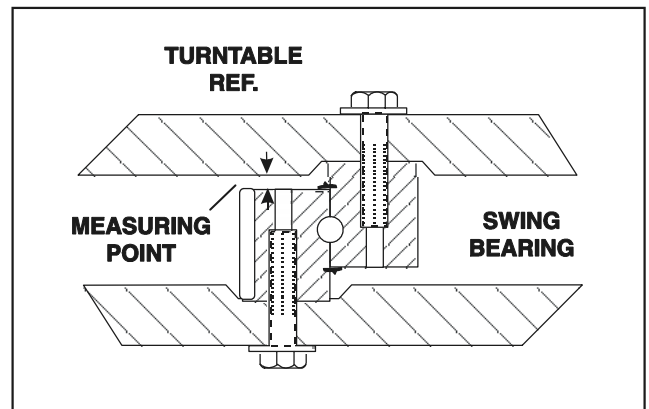
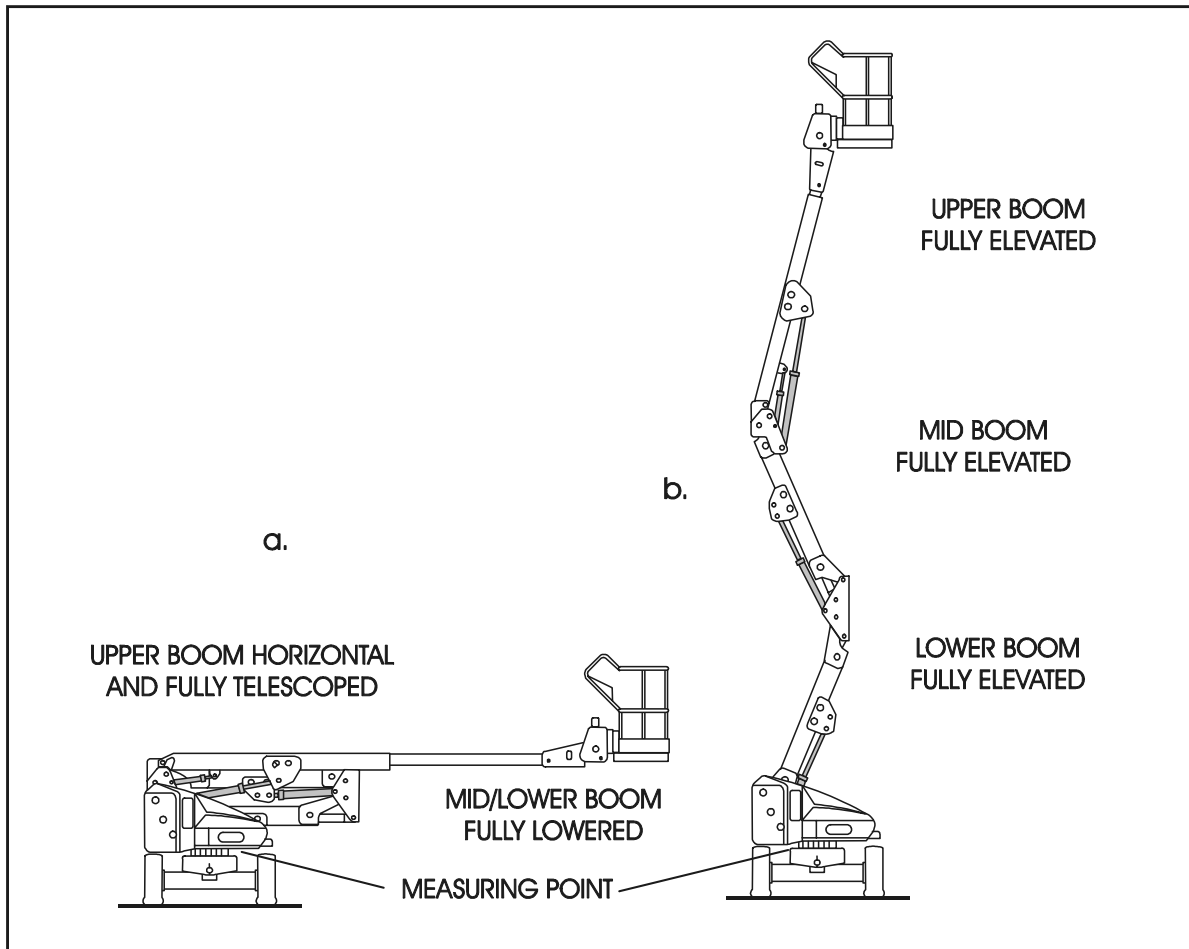

Figure 2-32. Swing Bearing Tolerance Measuring Point
Figure 2-31. Swing Bearing Tolerance Boom Placement
- b. At the positions indicated on Figure 2-31. try and insert the .0015" feeler gauge between the bolt head and hardened washer at the arrow indicated position.
1. With the boom positioned over the side of the machine, the Upper Boom horizontal with telescope fully extended and Mid/Lower Boom stowed, (See Figure 2-31.), using a magnetic base dial indicator, measure and record the distance between the swing bearing and turntable. (See Figure 2-32.)
2. At the same point, with the boom positioned over the side of the machine, the Upper Boom fully elevated and the Mid/Lower Boom fully elevated, (See Figure 2-31.) using a magnetic base dial indicator, measure and record the distance between the swing bearing and turntable (See Figure 2-32.).